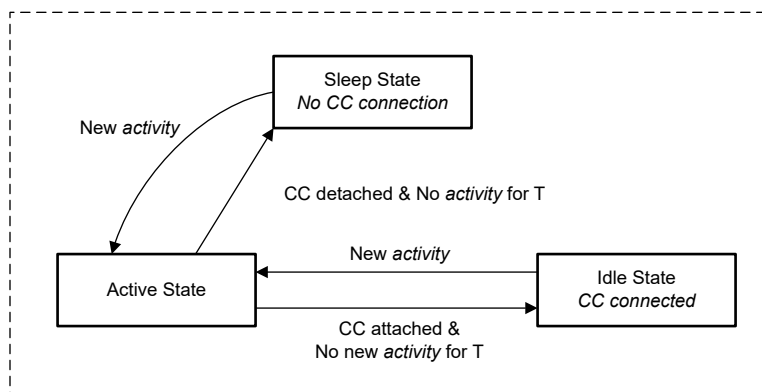

Figure 8-38. Flow Diagram For Power States
The TPS26741-Q1 operates in one of four different power states: Active, Idle, Sleep or Shutdown. The functionality available in each state is summarized in Table 8-9. The device automatically transitions between the power states based on the circuits that are active and required, see Figure 8-38. In the Sleep State the TPS26741-Q1 detects a Type-C connection or other activity that requires moving to the Active state (such as liquid detection actions). Transitioning between the Active mode to the Idle mode requires a period of time (T) without any of the following activity: